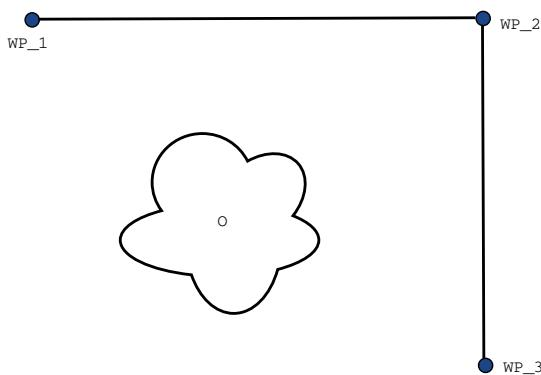

Figure 15.2: WP_1: initial position, WP_2: via point, WP_3: pick up position, O: obstacle.
Example Consider a pick and place application as an example (see figure 15.2), where the robot is currently at Waypoint 1 (WP_1), and it needs to pick up an object at Waypoint 3 (WP_3). To avoid collisions with the object and other obstacles (O), the robot must approach WP_3 in the direction coming from Waypoint 2 (WP_2). So three waypoints are introduced to create a path that fulfills the requirements.